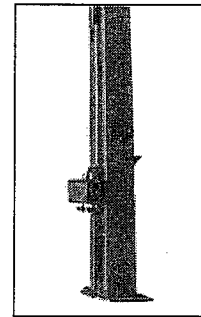

Fig. 23
1. Pull up both carriages to first height lock.(Fig. 23)